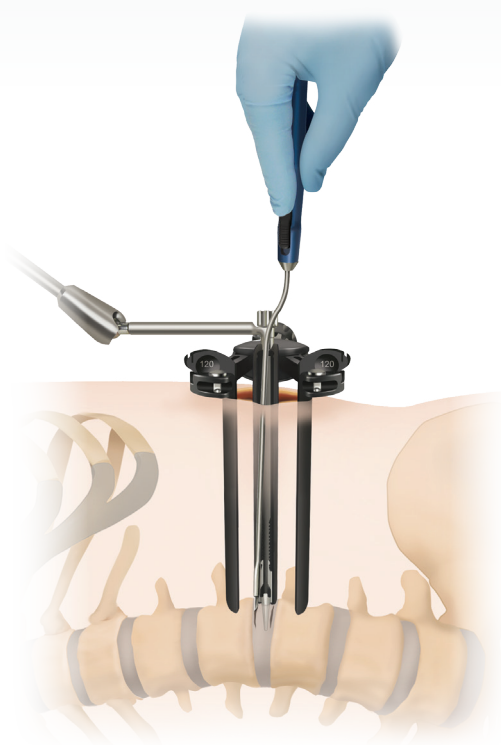

Figure 34
- Having first defined the anterior border of the disc space, use the **bayoneted annulotomy knife** to cut the annulus (**Figure 34**).